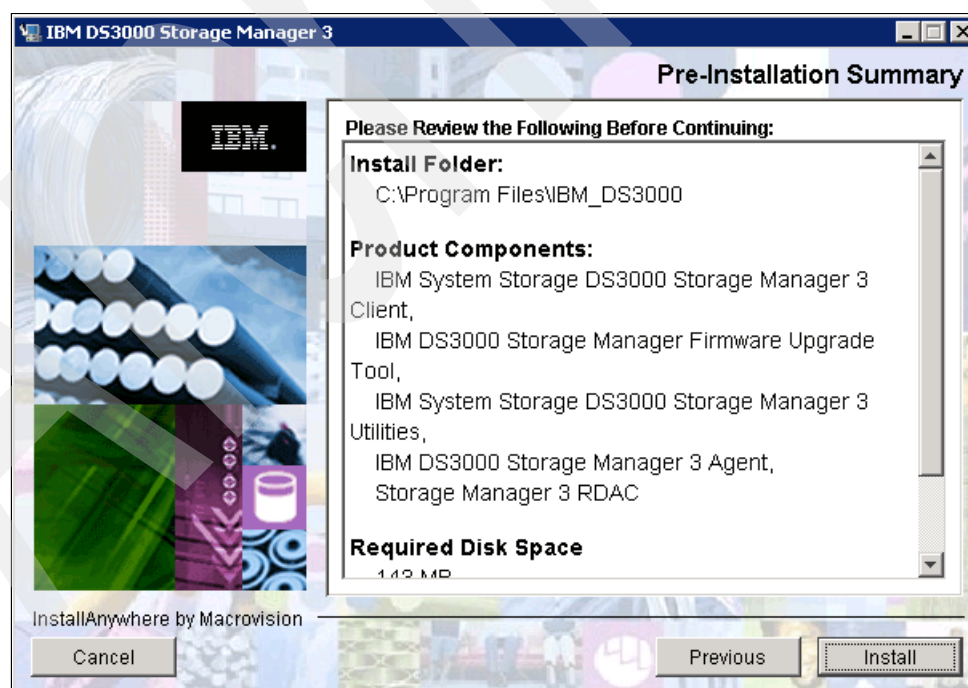

Figure 6-11 Pre-installation Summary
11. Verify the pre-installation summary and click **Install**. See Figure 6-11.